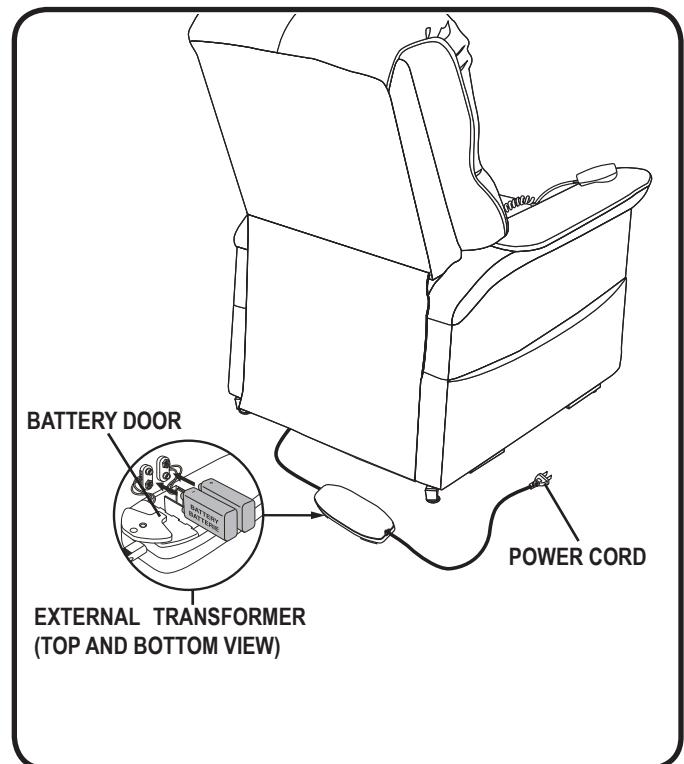

Figure 4.3 Chair Battery Back-up Location
3. Install two 9V batteries in the external transformer (fig. 4.3).